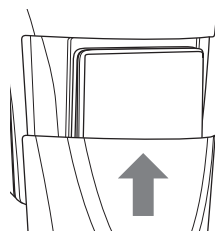

Fig. 4
- ♦ Slide the protective cover **11** over the battery compartment (see Fig. 4).